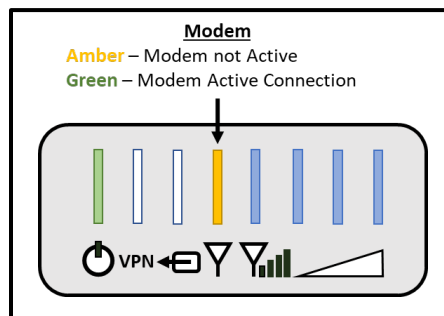

Figure 3. Cradlepoint Status Indicators
- c. Examine the front of the Cradlepoint router. Refer to Figure 3. The status indicator for the modem should transition from **GREEN** to **AMBER**.